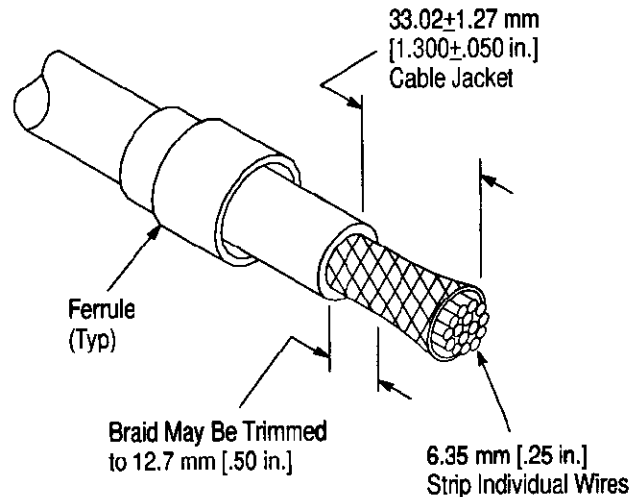

Figure 2
2. Slide the appropriate ferrule, smaller diameter end first, onto the cable. See Figure 2.
3. Strip the jacket to dimension shown in Figure 2. Then fold braid back over cable jacket.
4. Strip the insulation from end of each individual wire to the dimension shown in Figure 2. Tin the leads if required.
- Modified Figure 2